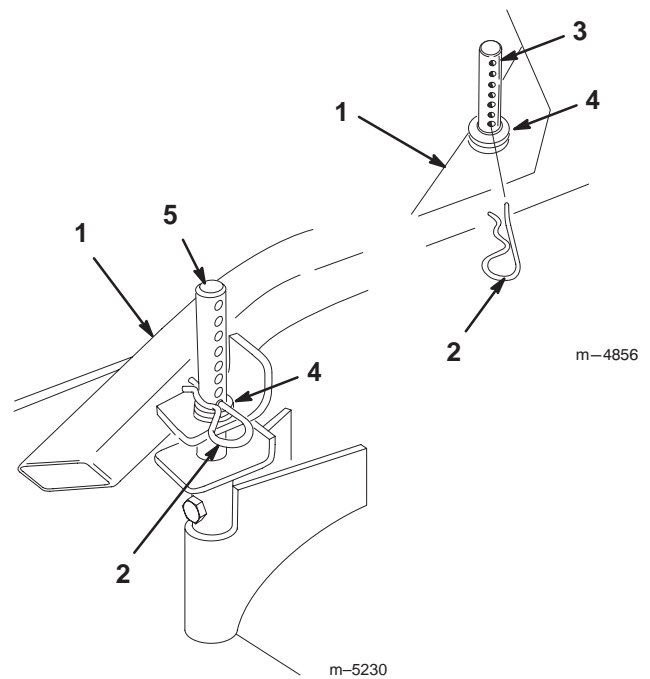

Figure 47
3. Remove spacers from the height-of-cut posts to lower the mower (Fig. 47).